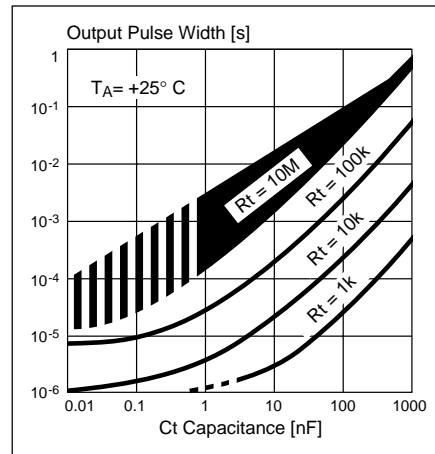

Figure 21. Typical  $t_{on}$  vs.  $C_T/R_T$ . Output pulse width vs. capacitance/resistance
- Figure 21 shows the relationship between  $C_T$ ,  $R_T$ , and  $t_{on}$ . Care must be taken to keep the  $t_{on}$  time short, otherwise the current in the winding will rise to a value many times the rated current, causing an overheated IC or motor.